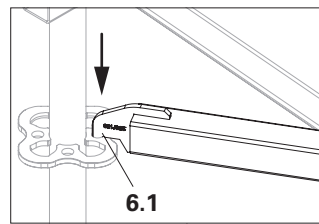

Fig. A1.04a
- Attach hook without slider (**6.1**) to the rosette and push downwards. (Fig. A1.04a + A1.04b)